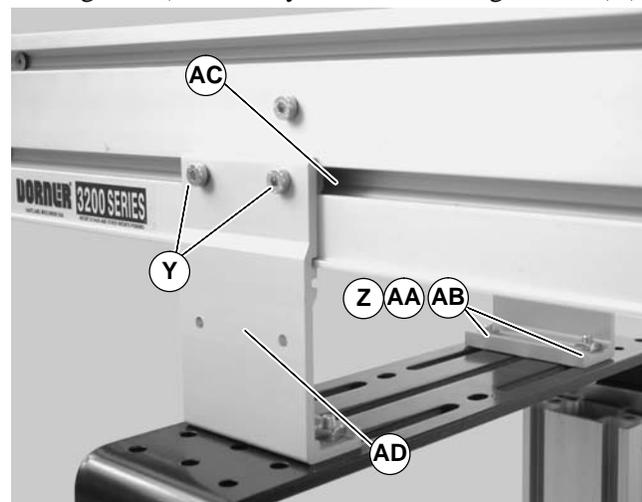

Figure 12
3. Insert T-bars (AC of Figures 10 & 11) into conveyor side slots (AC of Figure 12). Fasten brackets (AD of Figure 12) to conveyor with mounting screws (Y).
4. Fasten brackets to support stand with mounting screws (Z of Figure 12), washers (AA) and nuts (AB).
5. Tighten screws (Y & Z of Figure 12) to 60 in-lb (7 Nm).